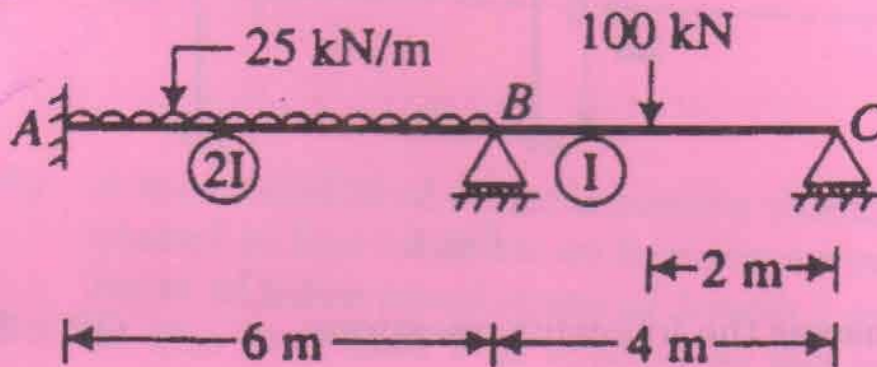

Fig. 5
- (a) Analyse the continuous beam shown in the Fig. 5 by stiffness method.